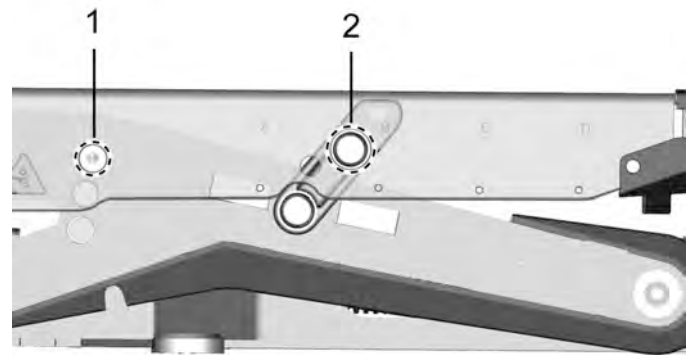

Figure 250. Seat height setting ± 0 mm.
2. Remove screw (2) on the left and right hand side of the AP-elevator. See fig. 250 - 252.
3. Tilt the top-plate forward to get access to the nuts mounted inside the AP-elevator on the screws (1). Remove the nuts.
4. Remove screw (1) on the left and right hand side of the AP-elevator. See fig. 250 - 252.
5. Adjust the height to required setting and reassemble the screws (1). Tighten the screws using a torque wrench. **Tightening torque: 25 Nm / 18.4 Ft/lbs.** See fig. 250 - 252.
7. Adjust to the same seat height setting as for screws (1) and reassemble the screws (2). Tighten the screws using a torque wrench. **Tightening torque: 25 Nm / 18.4 Ft/lbs.** See fig. 250 - 252.